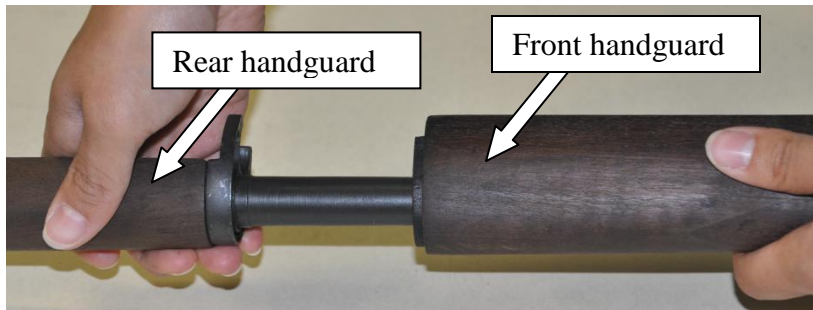

Figure 27. Removal of front handguard
- 8) Remove the front handguard by sliding it forward over the muzzle (fig 27). *Do not attempt to remove the rear handguard.*